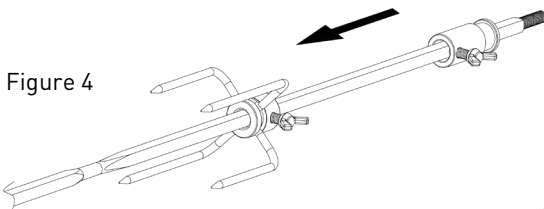

Figure 4
1. Pull the spit out of the motor and slide a meat fork onto it. Between the handle and the meat fork is the adjusting ring for the rotisserie spit bearing. The tips of the meat fork point away from the handle (Fig. 4).